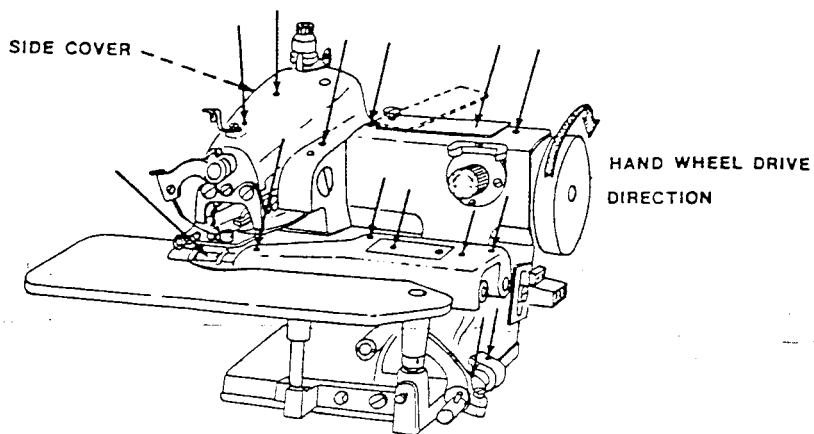

Fig. 3
II OILING INSTRUCTIONS (fig.3)
- 1) Drive the hand wheel by hand to the arrow direction (fig.3) until needle lever(4) comes to the highest position. Then loosen needle clamp screw (A) and insert needle according to the groove. After the needle comes to the end of needle lever groove, tighten screw (A) by a screw driver perfectly.
- 2) Drive the hand wheel slowly and examine the needle-point which must slightly be touching needle-guide (B). If the needle point is not touching (B) correctly, adjust needle bending by your finger to the correct position.